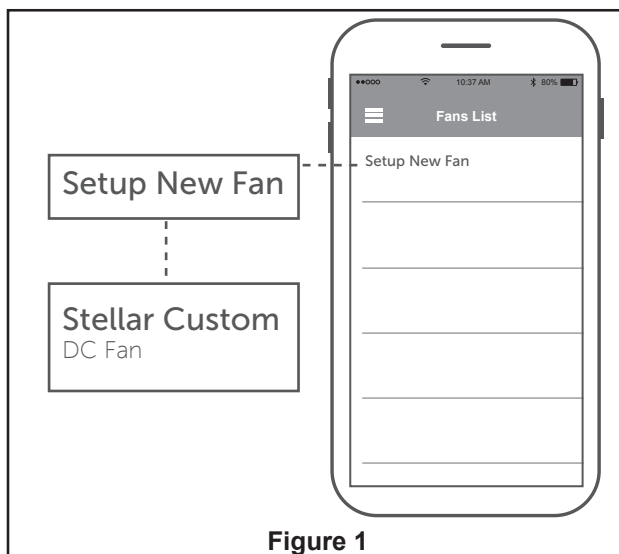

Figure 1
1. Open the fanSync app and tap the new fan to begin setup. (Figure 1)
1. **Installing Wall Plate:** (Figure 1)